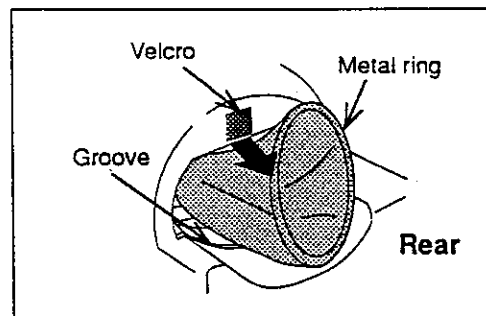

Figure 5-4. Arm cuff cover (4/6)
- 2 Detach the metal ring at the rear of the arm cuff cover from the groove. (See Figure 5-4.)